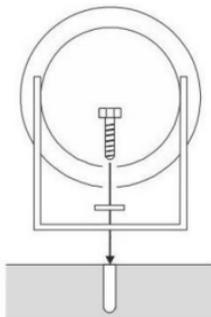

Fig. 3
- For wall mounting, using the bracket as a template, mark the location for, and drill the fixing holes ensuring not to infringe with any gas/water pipes or electrical cables (see Fig. 3)